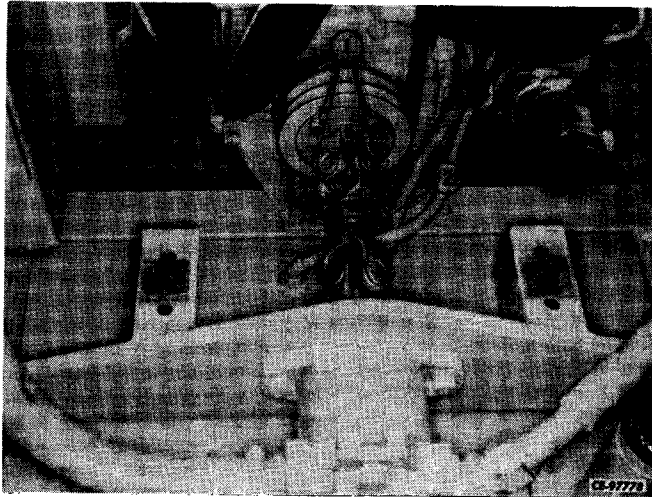

Figure 2-7
Remove cap screw (1, Fig. 2-7) and drive shaft (2) between engine and hydraulic pump.
Install drive shaft (2, Fig. 2-7) between the engine and hydraulic pump and install and tighten cap screws (1). Use "Loctite" sealant on cap screws (1).